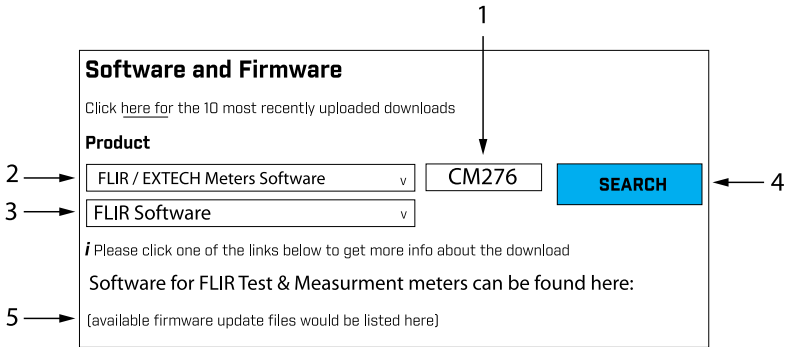

Figure 13.3 Follow the steps to complete the download process.
- For Figure 13.3, below, 1. Type **CM276** in the search field; 2. Select **FLIR / Extech Meters Software** from the pull-down menu; 3. Select **FLIR Software** from the pull-down menu; 4. Click **SEARCH**; 5. Click the upgrade file to download it to your PC.